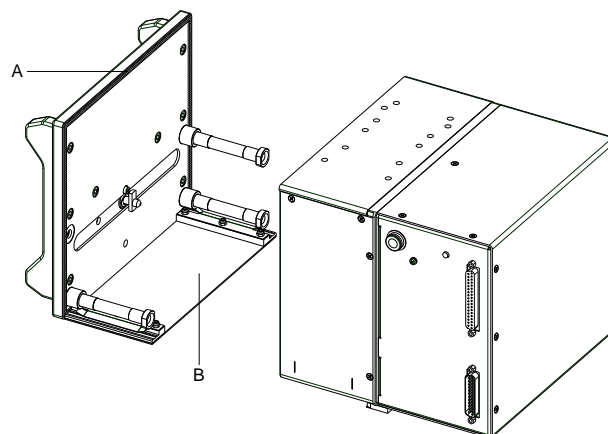

Figure 22
3. By an inserted sealing profile (A, Figure 22) and a cover (B, Figure 23) the print mechanics is protected in such a way for ingress of water and dust.